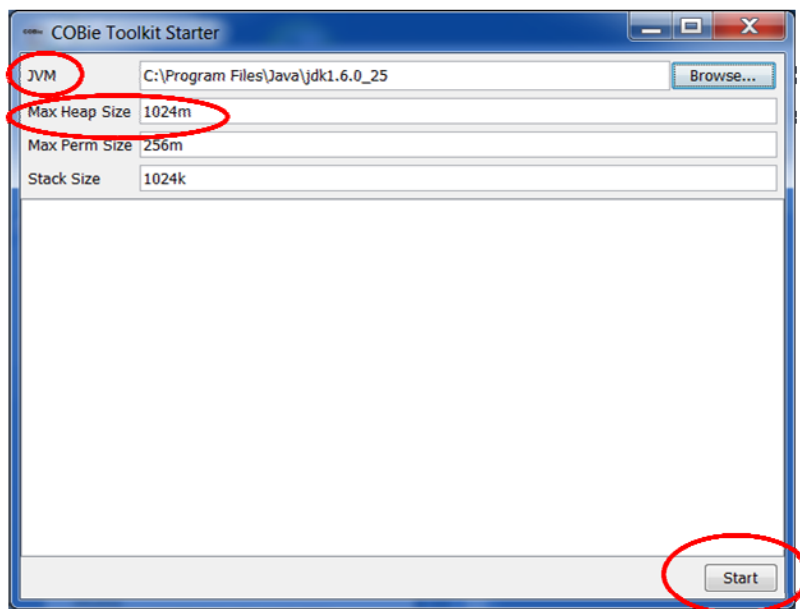

Figure 8: COBie Toolkit Starter Window JVM Settings
1. Review the settings in the COBie Toolkit Starter (see Figure 8). Make sure that: